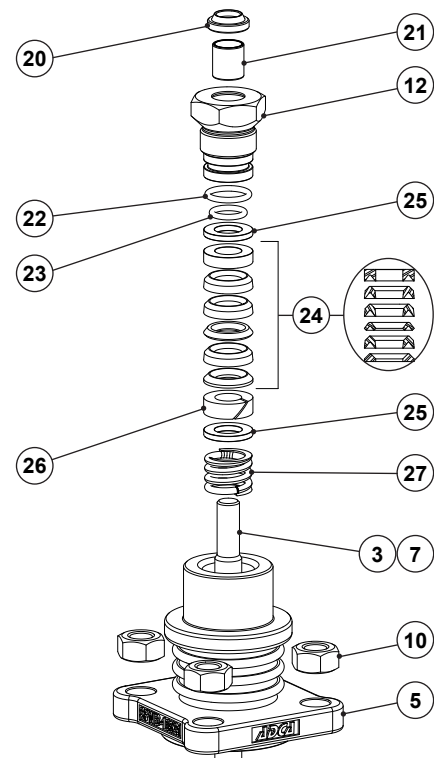

Fig. 4
8. Carefully slide the stem sealing components into the packing box according to Fig. 4.
9. Renew the scraper ring (20), plain bearing (21) and O-rings (22, 23) if necessary. Fit the O-rings (22, 23) and gland nut (21), screwing it loosely.
10. Firmly press the valve plug (3) against the seat (2) while tightening the body nuts (10) in a crisscross pattern by hand. Raise the plug until the valve reaches full stroke position and firmly push the plug fully downwards.
12. Tighten the gland nut (12) with the recommended torque – see section 9.3 – Tightening torques.